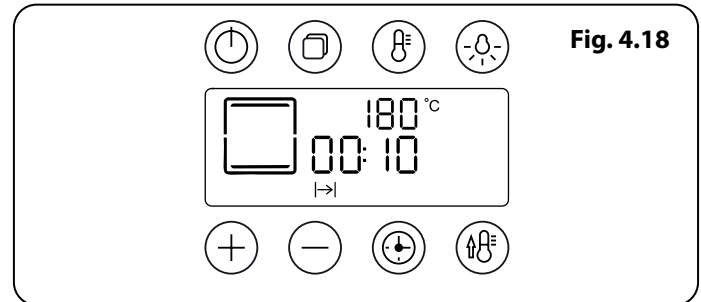
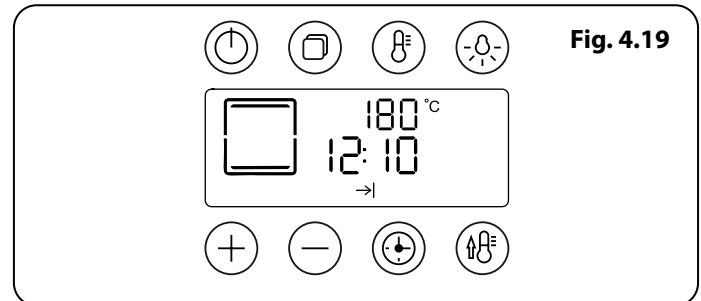

Fig. 4.18
Fig. 4.19
- The oven will enter Standby Mode after 3 seconds, the display will show the 'cook period' (Fig. 4.18) and the 'stop time' (Fig. 4.19). Changing the cooking function will clear the selection.
**Note:** Fig. 4.18 and Fig. 4.19 show conventional heat function for illustration. All other modes are available.